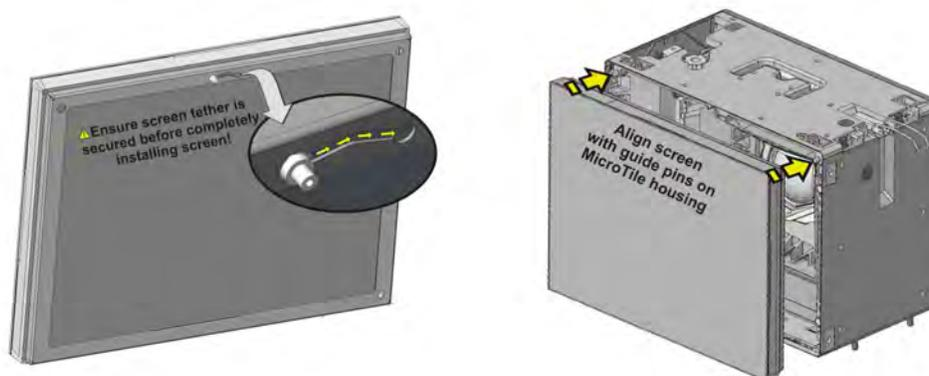

Figure 2-11 Screen Installation
1. Pull the screen tether out of the top of the tile housing and hook it into the locking latch on the screen (**Figure 2-11**). The tether ensures the screen does not fall if subjected to excessive force/vibrations.